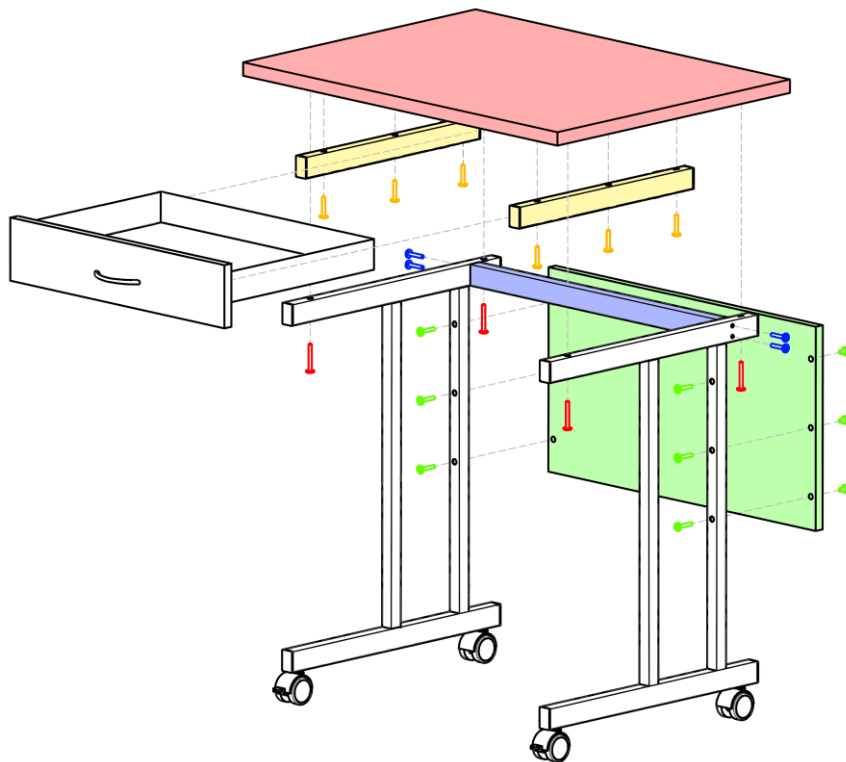

Figure 1. T-4 assembly
- Assemble the frame by joining 2 legs and 1 horizontal bar with 4 M6x40 screws (blue on figure 1).
- Secure the back panel on the frame with 6 pairs of M6x40 and M6/9x12x15 screws (green on figure 1).
- Secure the guiding rails on the underside of tabletop with 6 3,5x20 mm screws (yellow on figure 1).
- Position and secure the tabletop with 4 M6x50 screws (red on figure 1).